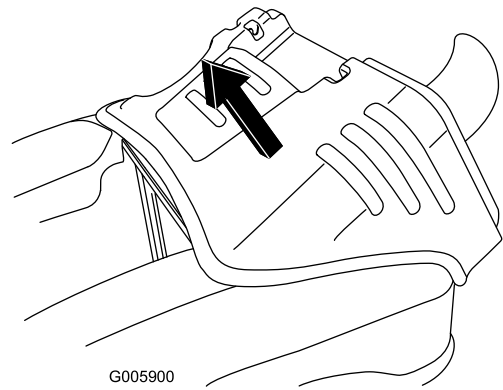

Figure 25
6. Grasp the engine hood front and rear and lift the engine hood off the frame (Figure 25).